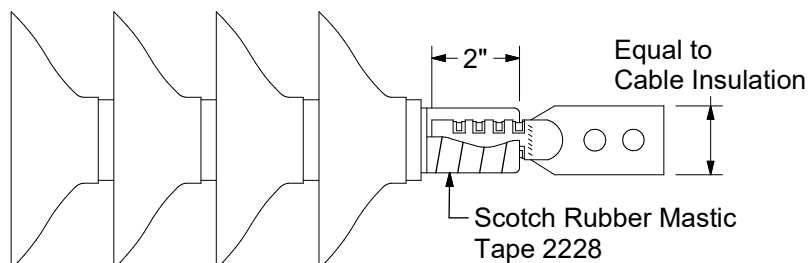

Figure 12
14. Wrap Scotch Rubber Mastic Tape 2228 half-lapped around the exposed conductor between the cable insulation and lug. Build the mastic up to the insulation O.D. Cover 2 inches of the lug barrel. (Figure 12)